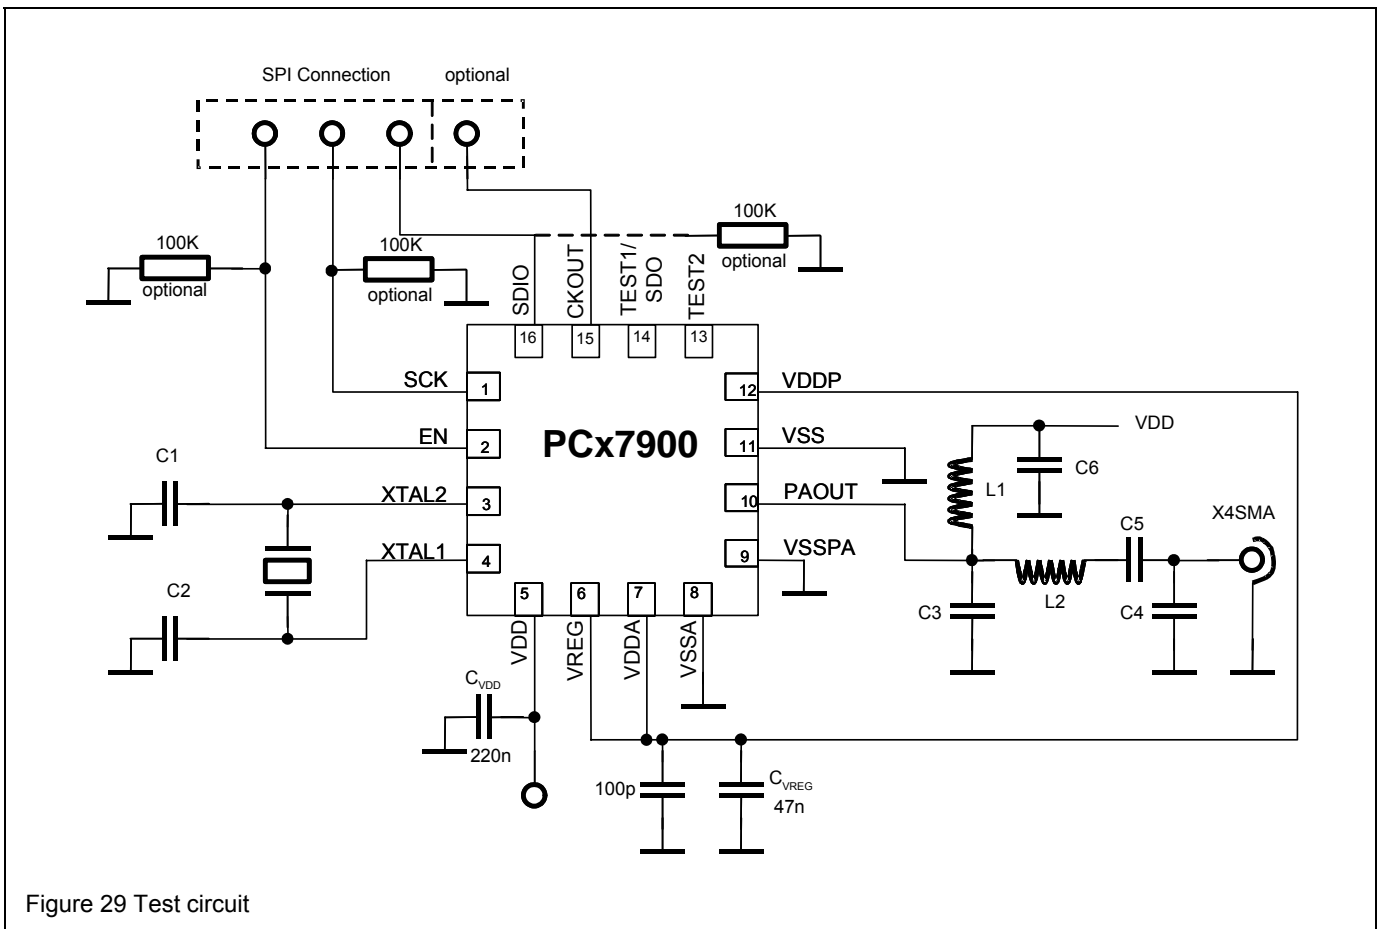

Figure 29 Test circuit
1. Load tank circuit according to Figure 29 Test circuit.